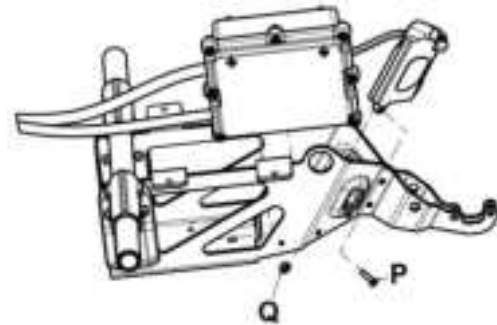

Figure 7
13. Using a T25 Torx driver and a 3/8" combination wrench, install the supplied button head cap screw (700000689468) (P) and Fiberlock nut (0016-002-000) (Q) to secure the cot comm board to the birdcage (Figure 7).